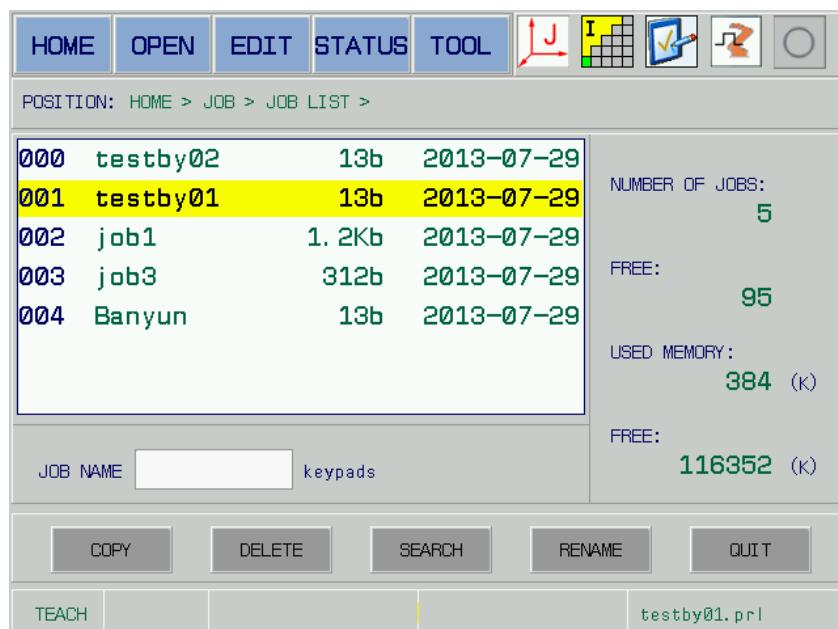

Fig. 5-11
- Move the cursor to the program to be deleted by up/down direction button, for example, delete the “testby01.prl” program; refer to the Fig. 5-11.